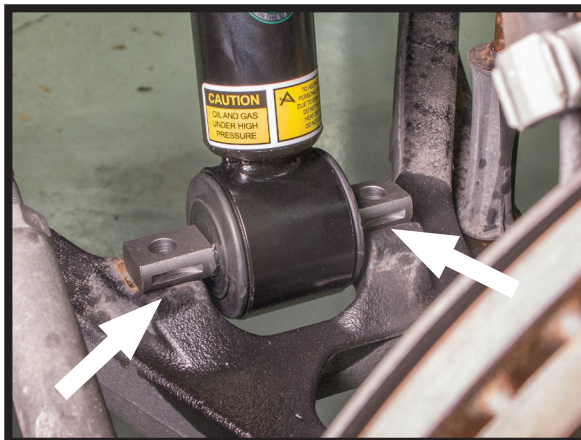

FIGURE 15
3. POSITION THE T-BAR ON TOP OF THE CONTROL ARM TO ENSURE PROPER MOUNTING. (FIGURE 15)